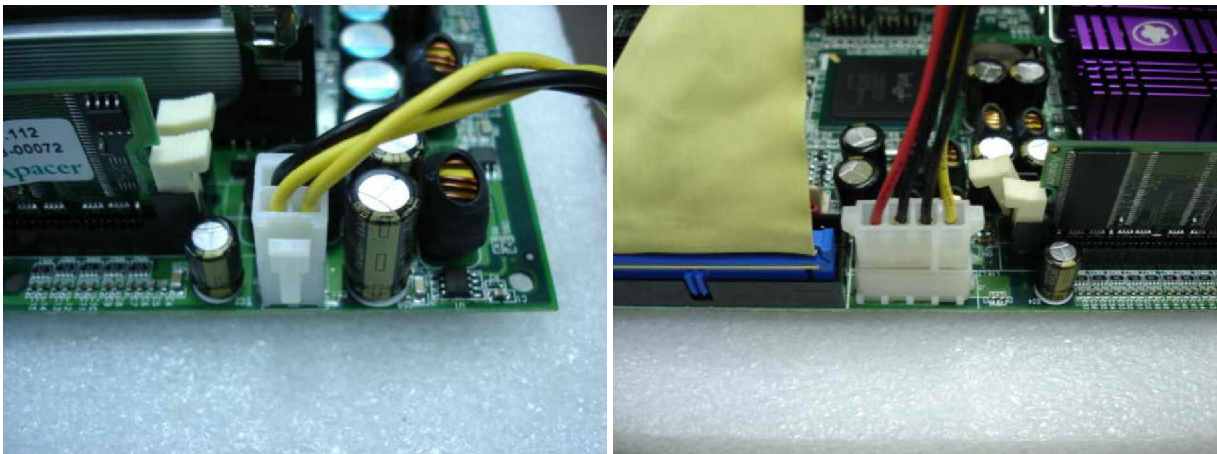

Figure 5-1
3307559VG2A series requires power drawing from two power connectors (J1 and J2), please connect both power connectors. If J2 isn't connected, it could also cause system failed to boot up. (Figure 5-1)
Step 4: Please check the connection of the 12V Power to CPU supplementary Power Connector properly (J1, and J2), which shows on Figure 5-1.
Step 2: Please connect 12V Power connector to CPU supplementary Power Connector (J1), which shows on Figure 5-1.